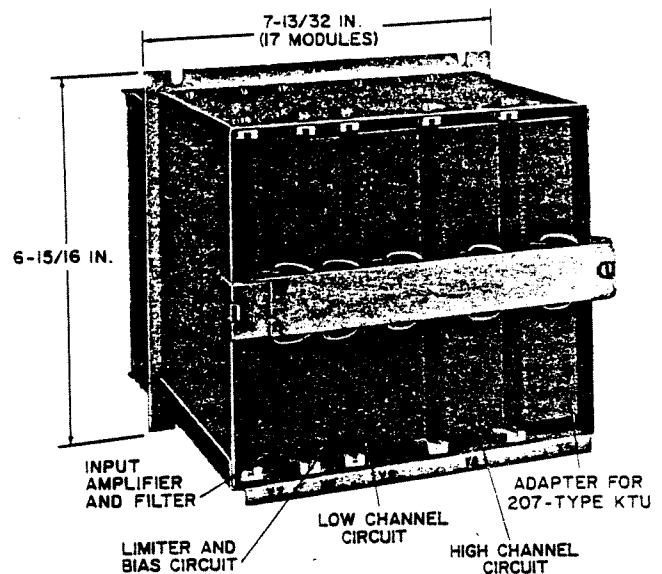

Fig. 1—247B KTU, Front View
- Unit, Telephone, Key 247B (Fig. 1, 2, and 3)